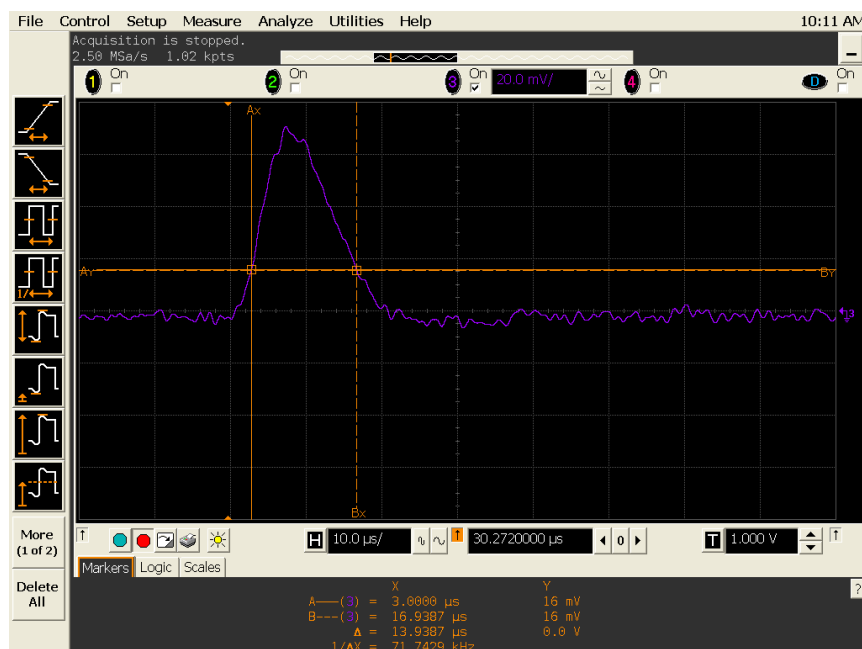

Figure 5-4 Graph of load transient response
- 7** Adjust the oscilloscope to display transients as shown in Figure 5-4. Note that the pulse width (t_2-t_1) of the transients at 15 mV from the base line is no more than 50 μ s for the output.